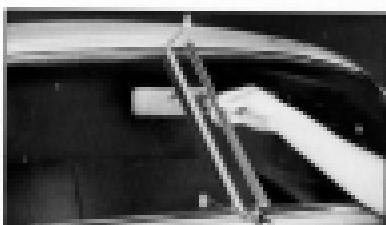

Fig. 8. Removing Center Division Revealed Molding
- Remove screen at "W" and "H", Fig. 8, left center division reveal molding retainer out of position and remove.